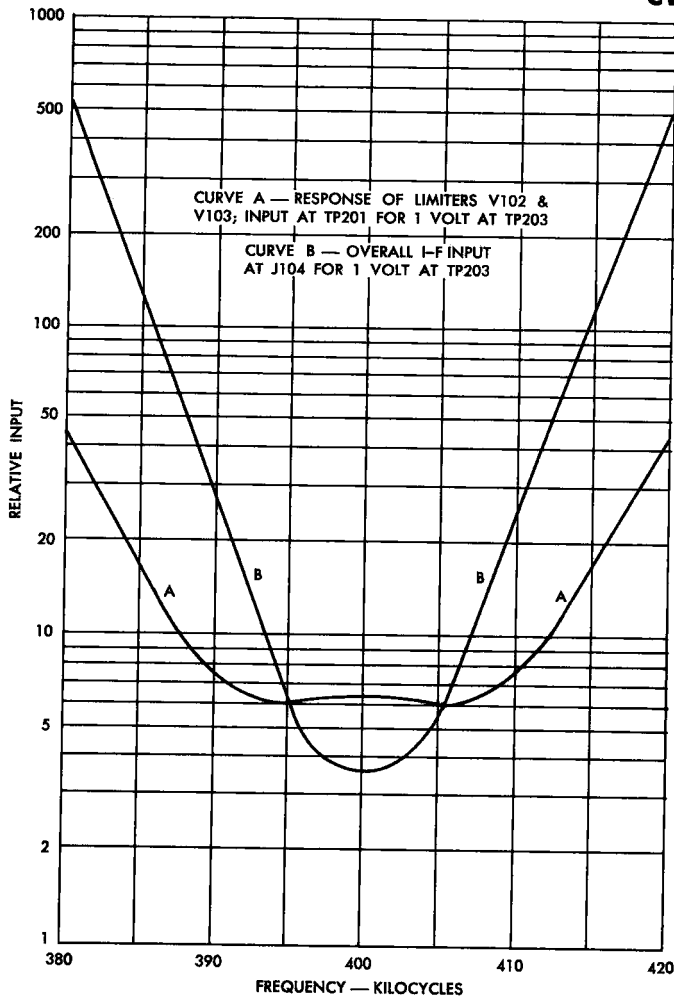

Figure 7-4. IF-selectivity Curves
(8) Set the signal generator to 390 kc and adjust its output to give one volt at TP203.
(9) Set the signal generator to 410 kc with the same output as in (8) above.
(10) If the voltmeter reads between 0.95 and 1.05 volts, T202 and T203 are centered adequately. If the meter reads less than 0.95 volts at 410 kc, turn the primary tuning slugs in T202 and T203 a few degrees counter-clockwise, and the secondary tuning slugs a few degrees clockwise. If the meter reads more than 1.05 volts at 410 kc, turn the tuning slugs in the opposite direction.
(11) Repeat steps (8), (9) and (10) above until the meter readings at 390 kc and 410 kc are within 5 percent of each other, and the correct adjustment is then made; it should then be possible to vary the signal-generator frequency from 390 to 410 kc, and the output at TP203 will rise smoothly from 1 volt to approximately 1.3 to 1.5 volts at the center frequency and then drop to approximately 1 volt at the other extreme, showing no pronounced peaks or dips in this range.
(12) Connect the signal generator to J104.
(13) Repeat steps (8) and (9) above.
(14) If the voltmeter reads between 0.9 and 1.1 volts, T201 is centered adequately. If the meter reads less than 0.9 volts turn the tuning slugs in T201 a few degrees counter-clockwise. If the meter reads more than 1.1 volts, turn the tuning slugs in the opposite direction. (Note that the slugs in T201 both turn clockwise or counter-clockwise as required.)
(15) Repeat steps (8), (9) and (14) above until the meter readings at 390 kc and 410 kc are within 10 percent of each other.
(16) If trouble is experienced in obtaining a voltage at TP203, try a similar procedure at TP202, and TP201, if necessary, to locate the difficulty.
(17) Refer to Figure 7-4 for the shape of the pass-band at TP203 below limiting, approximately 10 kc wide at the 6-db points.
(18) Approximate sensitivities are shown below: